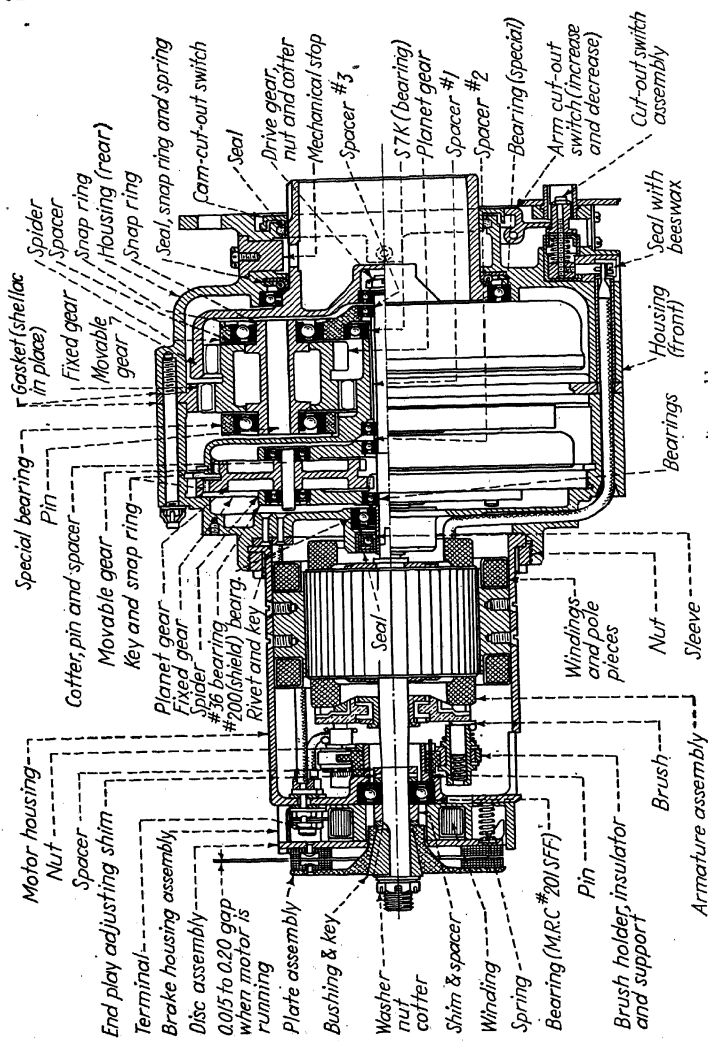

FIG. 59.—Curtiss propeller power unit assembly.
**Speed Reducer** (Figs. 59, 60, 61).—Install the leather oil seal, spring locking snap ring, and felt grease seal in the rear housing.
**Motor and Brake Assembly** (Figs. 59 and 62).—Place the brushes and springs in the brush holder, making sure that the brush rigging is tight.